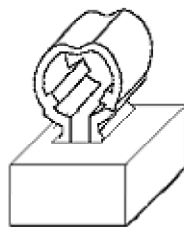
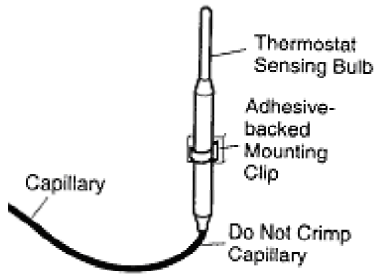

Figure 38- Adhesive-Backed Mounting Clip
Figure 43 – Position The Thermostat Sensing Bulb In The Vertical Position With Capillary at The Bottom
4. The mounting clip must be a minimum of 3" from bottom of fireplace to prevent crimping of capillary. Once you have decided on a location, thoroughly clean the area. Remove the paper backing from the adhesive on back of mounting clip (provided with the heater in hardware package) (see Figure 38). Press the clip into the new location so that the thermostat sensing bulb will be positioned vertically with the capillary at the bottom (see Figure 43). Slide the thermostat sensing bulb into the clip.